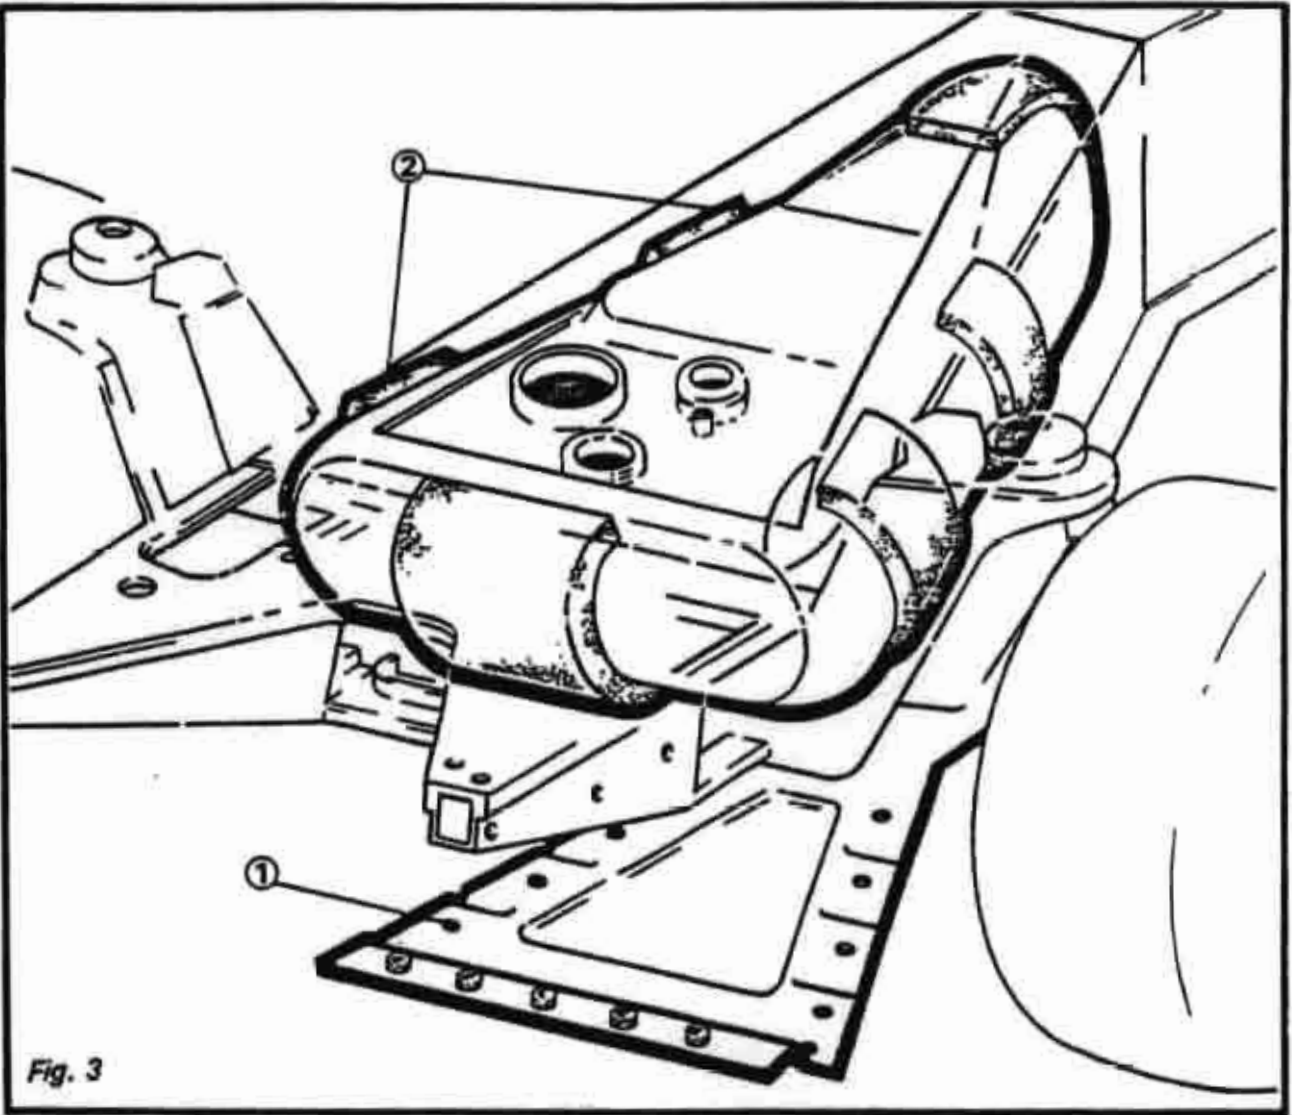

Fig. 3
Remove the bolts securing the protection plate (1) whilst providing alternative support for the tank. *Fig. 3*
Before refitting a fuel tank examine the tank for any signs of damage or chaffing. Replace the tank if there is any doubt about its serviceability. Ensure the foam rubber protection strips are in place and in good condition (2). *Fig. 3*